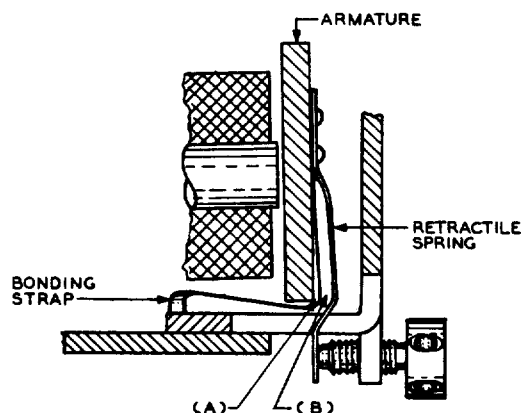

Fig. 3 — Bonding Strap Position
- (a) Fig. 3(A) — The bonding strap shall clear the front corner of the armature by
- (b) Fig. 3(B) — There shall be a clearance between the bonding strap and retractile spring at all points beginning 1/8 inch below the lower rivet of